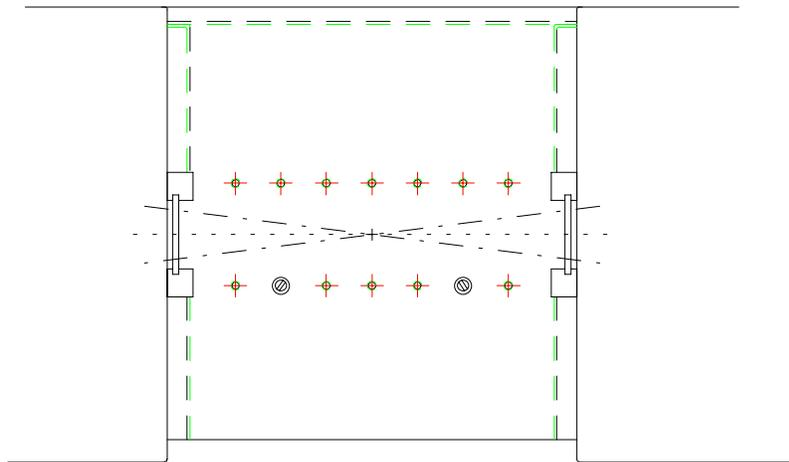

Figure 2. Midac Sample Compartment
- 3) Screw the mounting pins into the spectrometer sample compartment as shown in Figure 2.